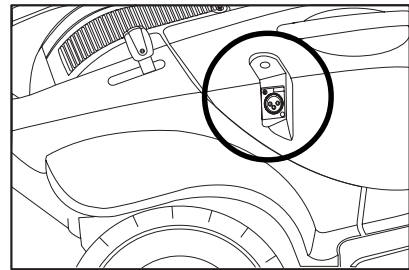

Figure 8. Charger Power Cord Receptacle
4. Remove the charger power cord receptacle cover from the charger power cord receptacle and plug the 3-pin charger power cord into the receptacle. See figure 8.